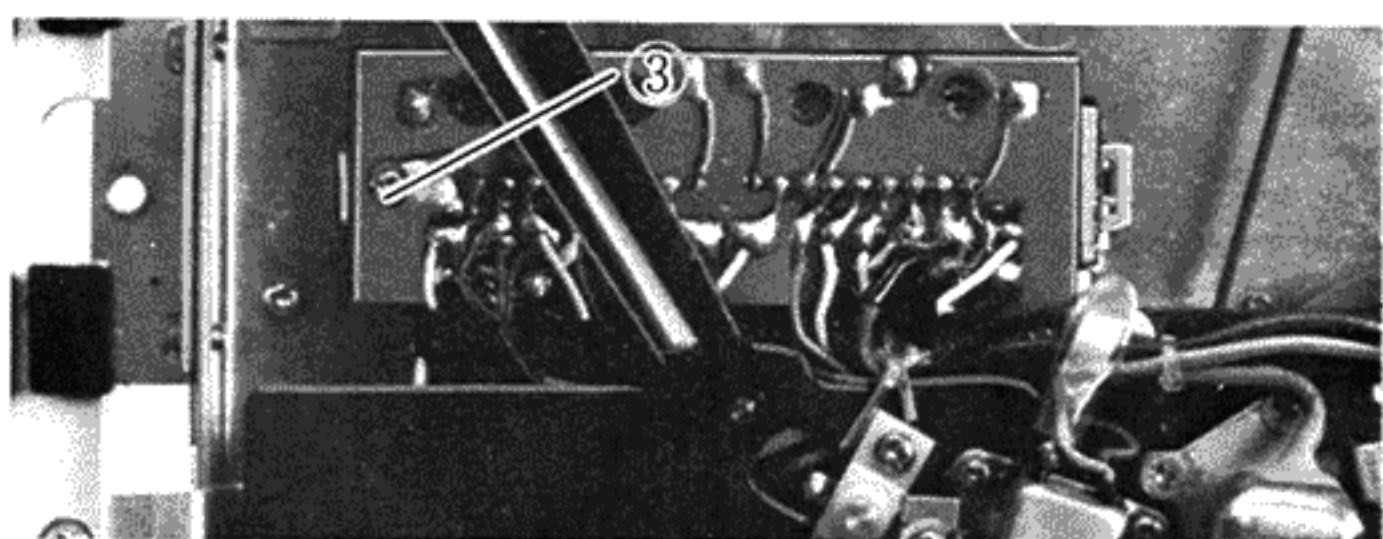

Fig. 11-3
3) Head selector circuit board (Fig. 11-3)